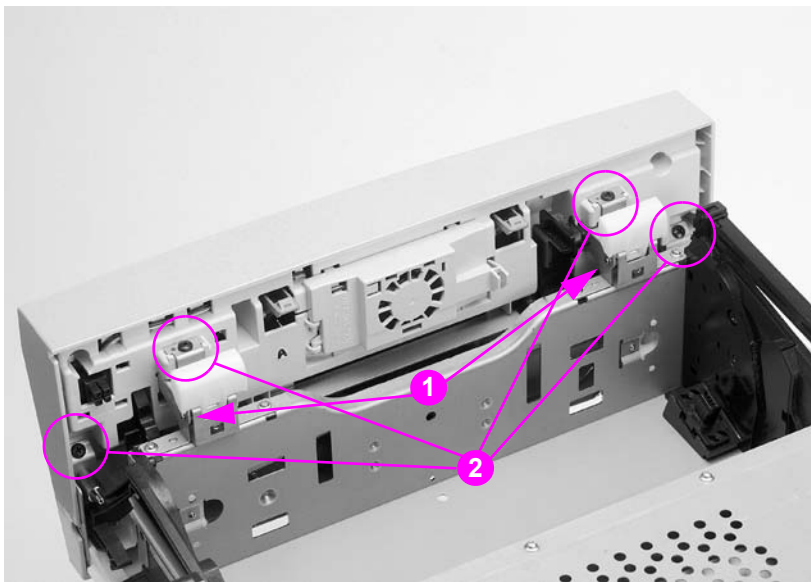

Figure 6-7 Drum drawer (top drawer) cover removal and replacement
- 2 Remove the two screws in the newer version HP Color LaserJet 4500 printer and HP Color LaserJet 4550 printer (callout 1, Figure 6-7) or four screws in the older version HP Color LaserJet 4500 printer (callout 2, Figure 6-7) from the inside of the drawer cover.